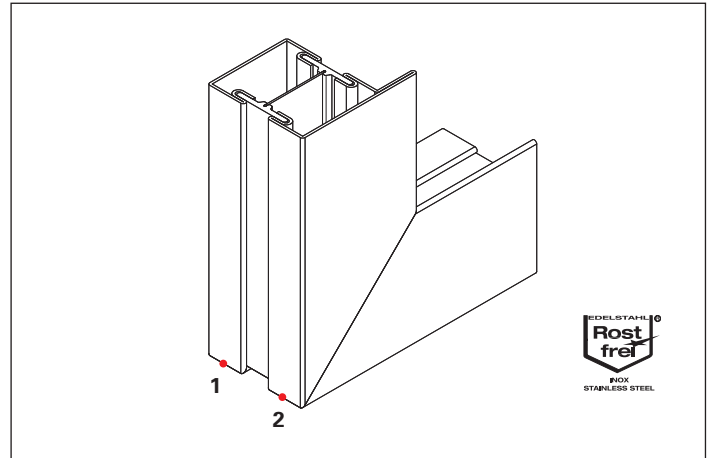

Fig. 142 Tack the corners (1 and 2) on the outside
2. Tack the corners on the outside and door sill joints on the profile surface on the inside (Fig. 142/143)